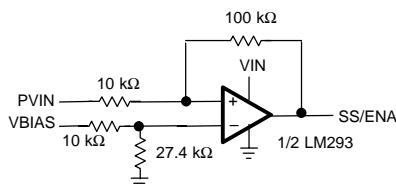

Figure 11. Undervoltage Lockout Circuit for PVIN Using Open Collector or Open Drain Comparator
If the PVIN input is controlled via a fast bus switch, it results in a hard start condition and may damage the load (i.e., whatever is connected to the regulated output of the TPS54974). If a power good signal is not available from the 2.5-V power supply, one can be generated using a comparator and hold the SS/ENA pin low until the 2.5-V bus power is good. An example of this is shown in Figure 11. This circuit can also be used to prevent the TPS54974 output from following the PVIN input while the PVIN power supply is ramping up.
(1) Safe operating area is applicable to the test board conditions in the Dissipation Ratings
(2) Using the undervoltage lockout circuit of Figure 11